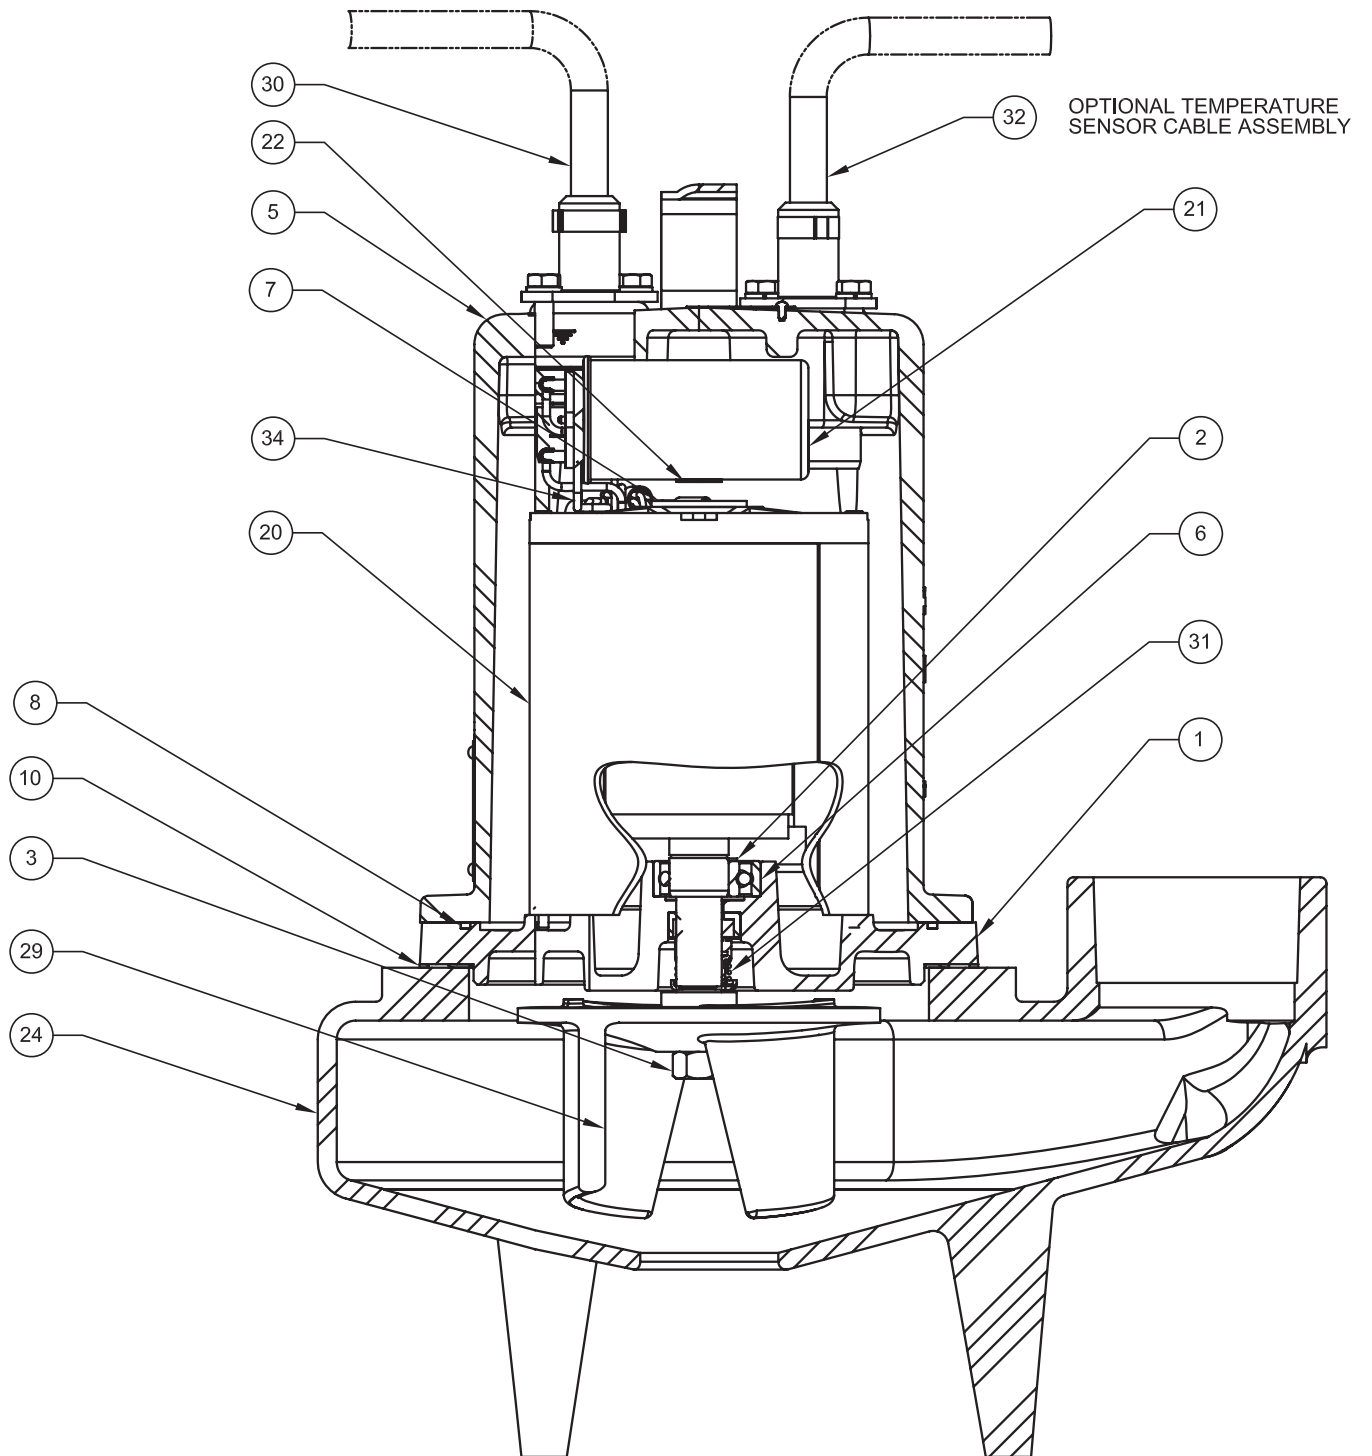

FIGURE 11
To clean out volute (24) or replace impeller (29), disconnect power, remove screws (12), and lockwashers (11), vertically lift motor and seal plate assembly from volute (24). Clean out volute if necessary. Clean and examine impeller (29), for pitting or wear and replace if required, inspect gasket (10) and replace if cut or damaged. If the impeller (29) needs replacing, remove nut (3), place a flat screwdriver in the slot of the shaft to hold the shaft stationary while unscrewing the impeller (29). (See Figure 11 or 12)
To install impeller (29), screw impeller onto the shaft hand tight. Clean the threads with Loctite cleaner. Apply thread locking compound to shaft threads and install nut (3). Torque to 40 ft. lbs. Rotate impeller to check for binding. Position gasket (10) on volute flange and position impeller and motor housing on volute (24). Position lockwashers (11) on cap screws (12) and screw into volute (24). Torque to 8 ft. lbs. Check for free rotation of motor and impeller. (See Figure 11 or 12)